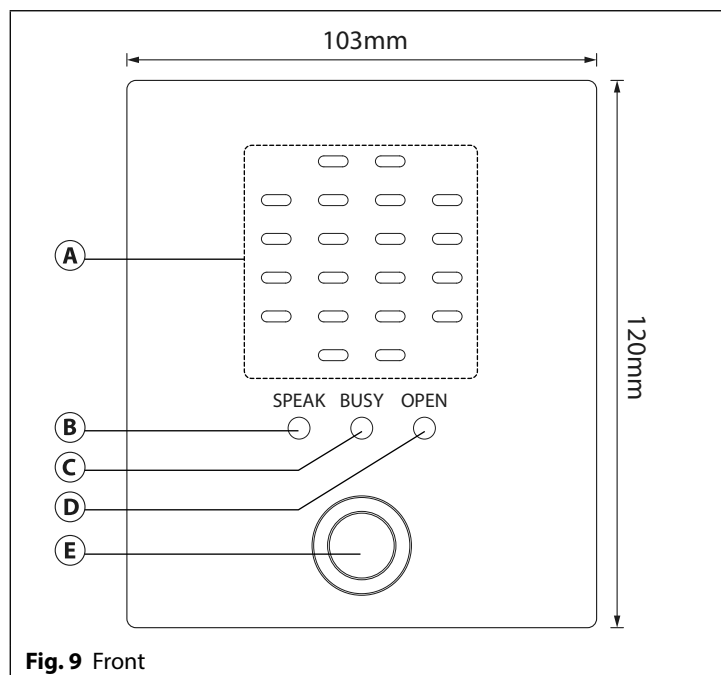

Fig. 9 Front
SPEAK (Yellow)	The speak LED ( Fig.9, ⑧ ) when illuminated, indicates that it is possible to speak because the call has been answered or a call made to the GSM intercom (with the exception of a call from a dial to open (DTO) number). The LED will switch OFF at the end of a conversation when the telephone/mobile that has been dialled hangs up or at the end of the call time (SPT).
BUSY (Red)	The busy LED ( Fig.9, ⑨ ) when illuminated, indicates that it is not possible to make a call because a call or a conversation is in progress. The LED will be OFF when the system is in standby. If there is power on the GSM intercom and the Art.432 antenna is not connected this LED will flash continuously until the antenna is connected. The LED will flash while connecting to a network and continue to flash until it has found the network.
OPEN (Green)	The open LED ( Fig.9, ⑩ ) when illuminated, indicates that the door lock (GSM relay) has been operated. It will switch OFF at the end of the programmed "door opening" time. The LED will also illuminate and operate the relay (for the programmed relay, RLT, time) if a programmed key fob is presented to an off board Wiegand proximity reader that is connected to the Wiegand reader input connections.